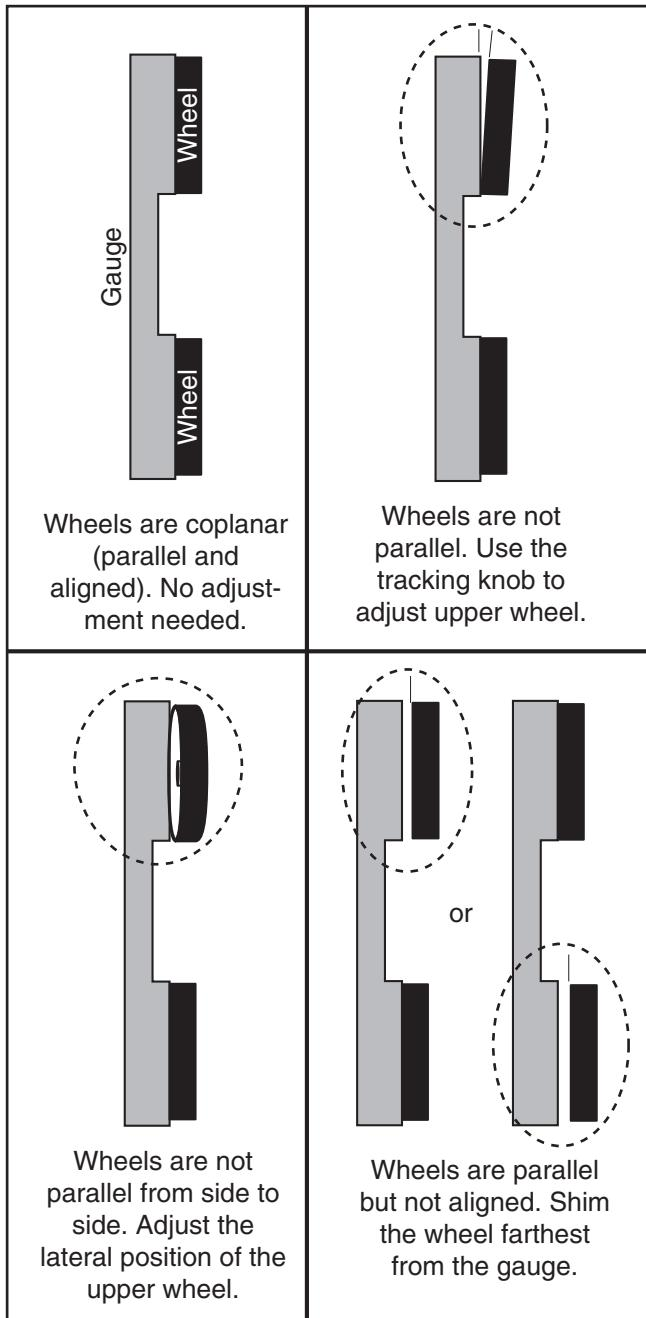

Figure 60. Various wheel alignments.
Wheel alignment is important for optimal performance from your bandsaw. Wheels are properly aligned when they are parallel with each other and in the same plane or "coplanar" (see the illustration in **Figure 60** on the next page).
1. Make one edge of the 2x6 board completely straight (typically with a jointer), then cut out a slot in the middle to compensate for the cabinet (see the illustration in **Figure 60** for an example).
5. Hold the coplanarity gauge close to the center of both wheels, making sure that the gauge fully extends across the wheels as shown in **Figure 60**. Also, check the alignment on the left and right side of the wheels.